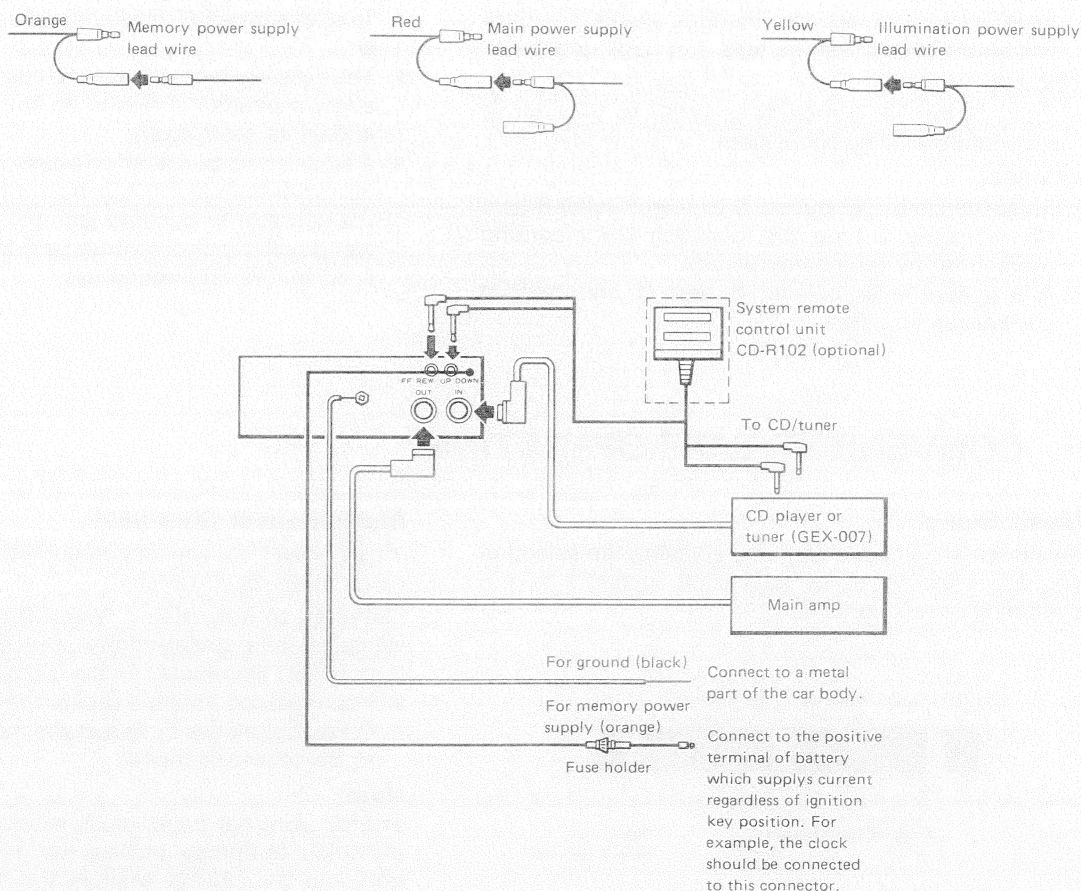

Fig. 8
- If you should encounter more than two lead wires of the same color, when wiring connections, wire them together as shown in the following diagram. (Fig. 8)